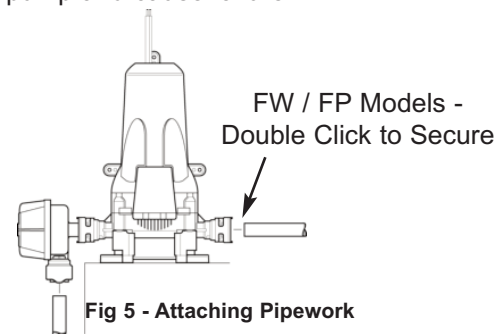

Fig 5 - Attaching Pipework
- For FW or FP models, ensure a double click into Quick Connect connections (Figure 5).